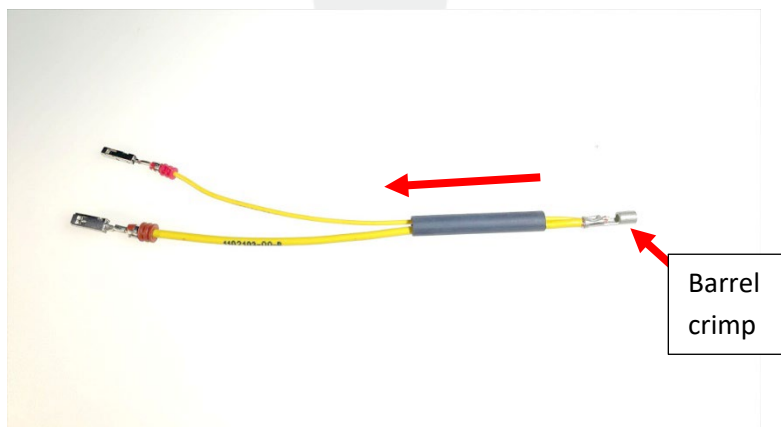

Figure 19
19. Slide the shrink tubing over both wires of the jumper, to the middle of the jumper (Figure 19).